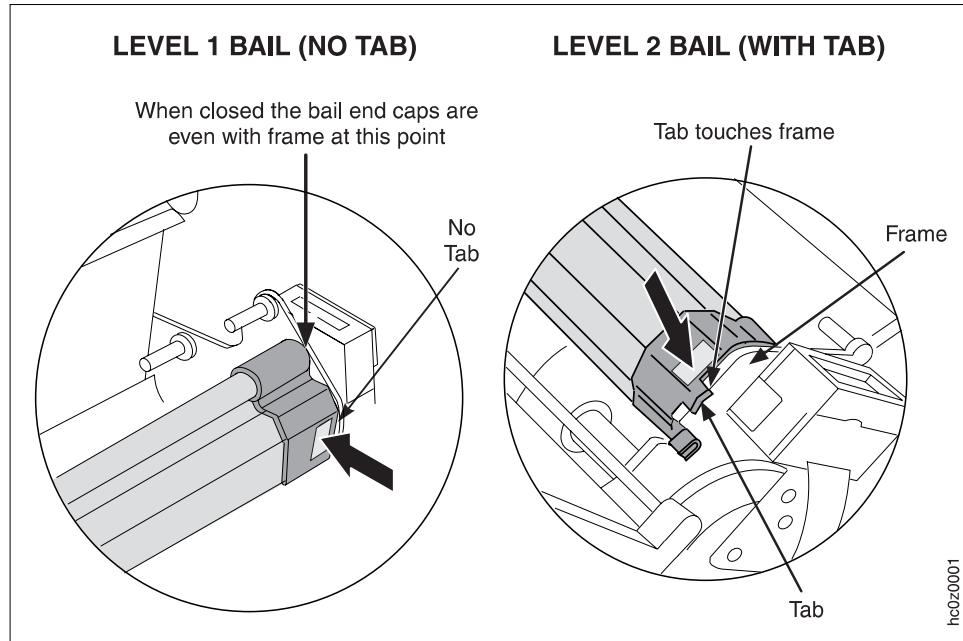

Figure 28. Correct Installation of Either a Level 1 or a Level 2 Paper Bail
- Ensure that the paper bail (level 1 or level 2) is installed correctly. Press on the areas that are identified by arrows in Figure 28 on page 50. If your printer has a level 1 paper bail, ensure the paper bail is snapped into the closed position. See Figure 28 on page 50.